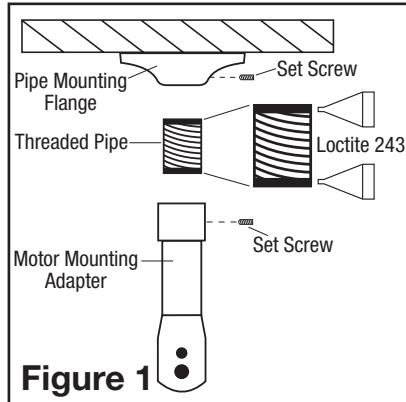

Figure 1
1. Locate the pipe mounting flange, securely mount to ceiling structure. Ensure ceiling structure can safely support the installed fan (**Figure 1**).
3. Apply (1) entire tube of Loctite #243 onto the first 2 threads of one end of the threaded pipe that will be screwed into the motor mounting adapter (**Figure 1**).
4. Screw threaded pipe into motor mounting adapter. The threaded pipe must be screwed in at least 4 full revolutions. Do not allow Loctite #243 to dry before joining. Tighten provided 1/4" set screw into motor mounting adapter (**Figure 1**).
6. Apply (1) ENTIRE tube of Loctite #243 onto the first 2 threads of the opposite end of the threaded pipe that is now screwed into the motor mounting adapter (**Figure 1**).
7. Screw threaded pipe with motor mounting adapter to the pipe mounting flange. The threaded pipe with motor mounting adapter must be screwed in at least 4 full revolutions into the pipe mounting flange. Do not allow Loctite #243 to dry before joining (**Figure 1**).
8. Tighten provided 1/4" set screw into pipe mounting flange (**Figure 1**).